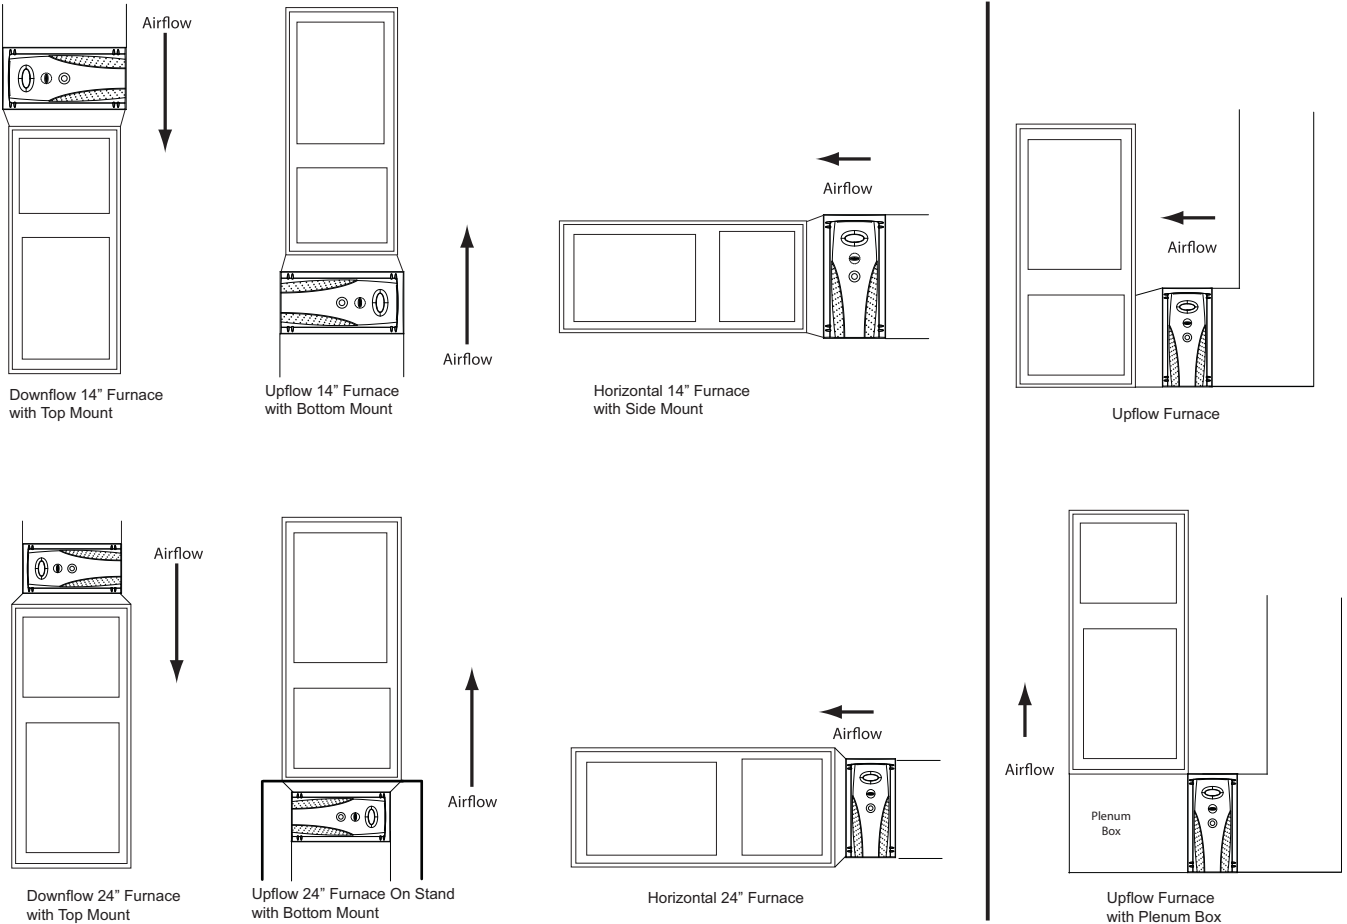

Fig. 4 - Infinity® Air Purifier Cabinet Orientation with Transition
- Secure furnace to transition using sheet metal screws. See Fig. 4.